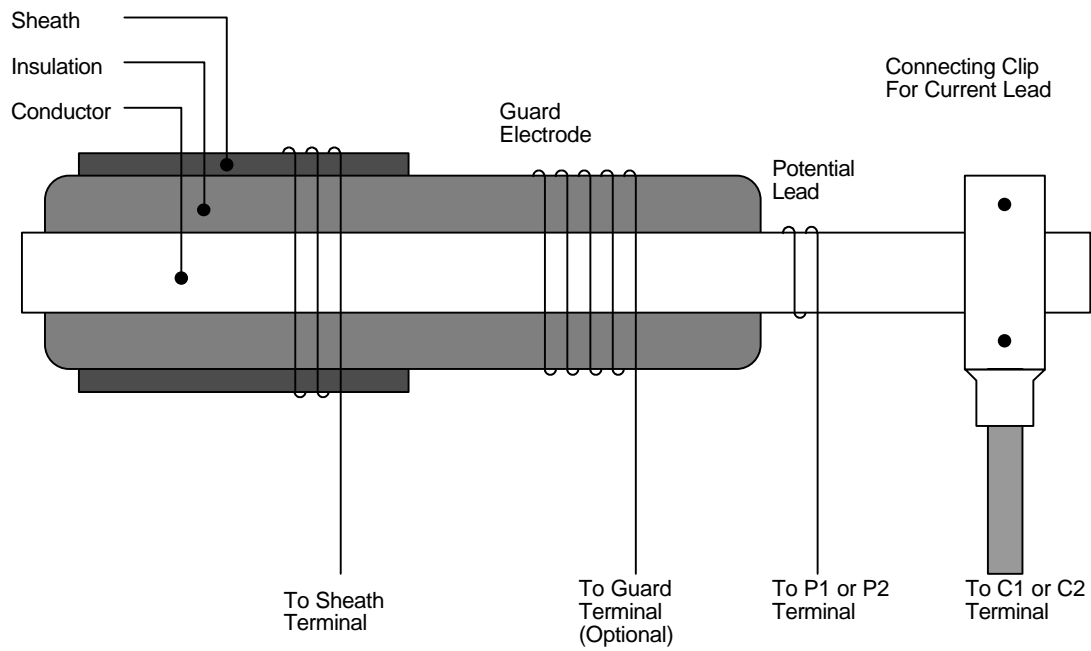

Figure 1: Connections to end of conductor
8.1 When both ends of the faulty conductor are together (Figs. 1 - 3) (as in cable manufacture, or when the cable is on a cable reel)
8.3 When the ends of the faulty conductor are not available at the same point (alternative method) (Figs. 1 & 4)
8.5 Using the Guard terminal with very high resistance faults (Fig. 1)